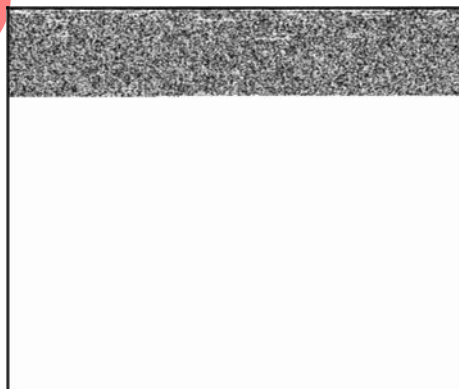

Figure 35
- Remove two carburetor mounting screws (A, Figure 35).